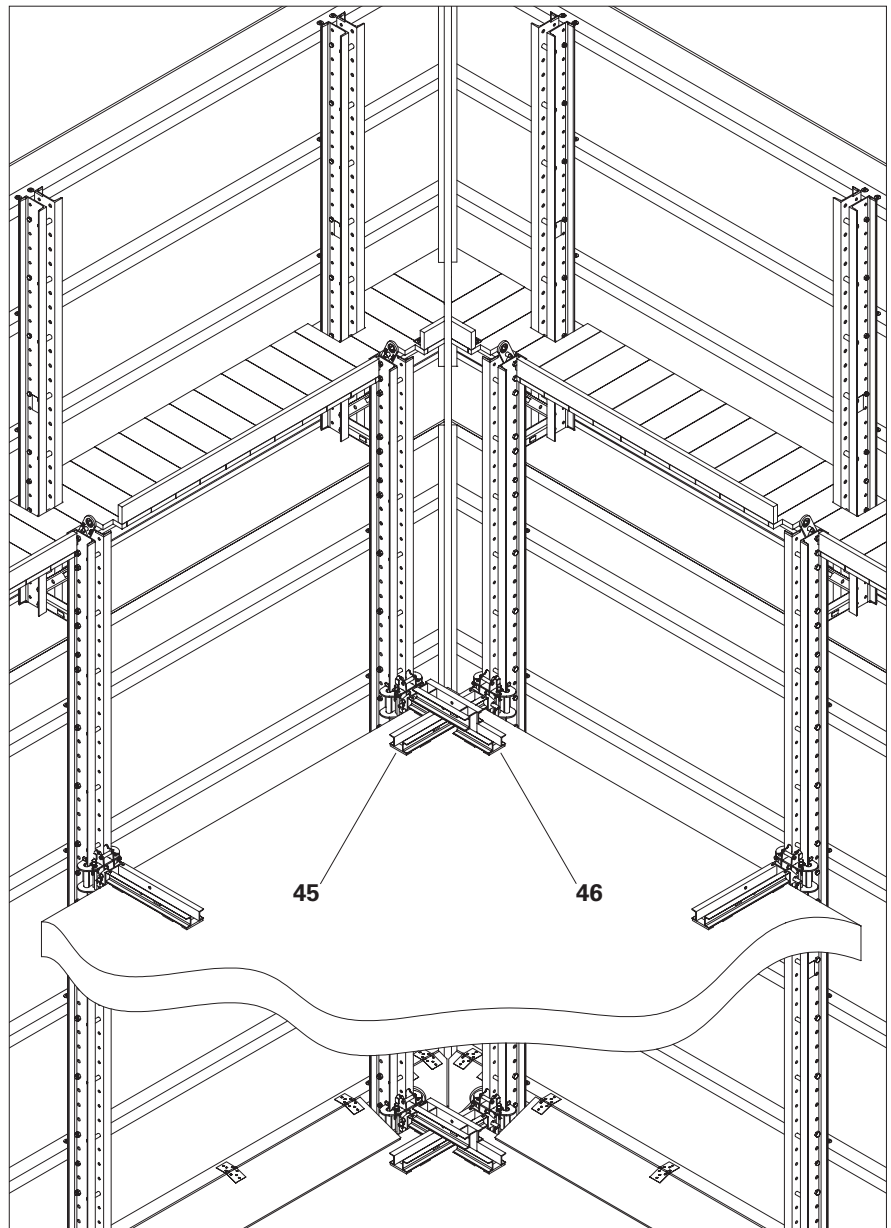

Fig. B3.01
At the corner of the building: a cross-wise arrangement of the Slab Shoe RCS (45) and Slab Shoe Corner RCS (46). (Fig. B3.01)